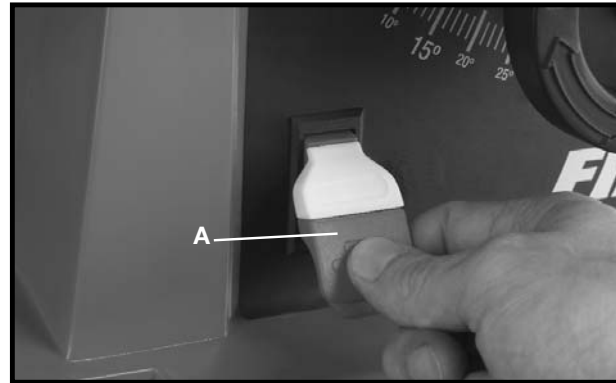

Fig. 34
The on/off switch (A) Fig. 34 is located on the front of the saw cabinet. To turn the saw "ON", move the switch (A) up to the "ON" position. To turn the saw "OFF", move the switch (A) down to the "OFF" position.